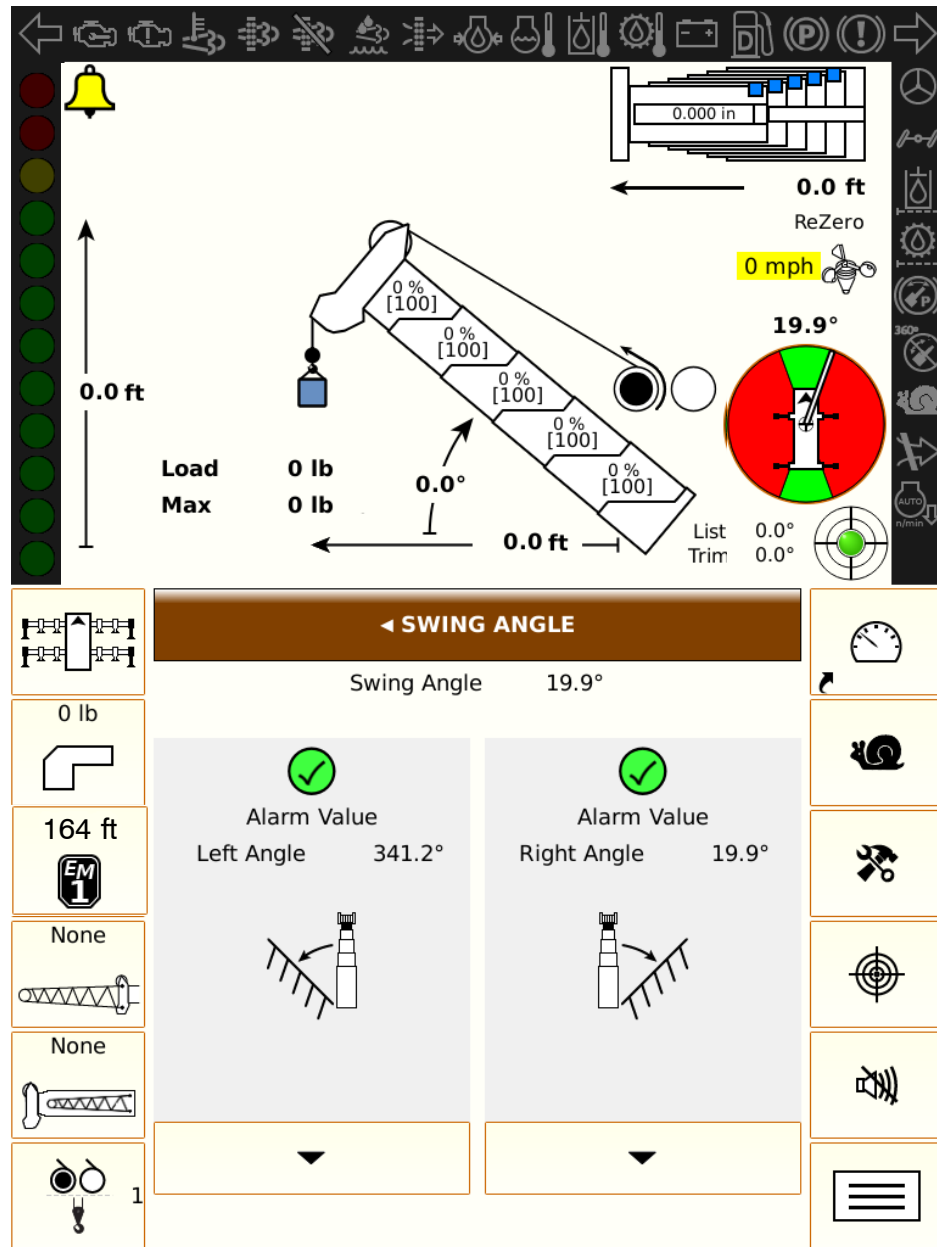

Figure 1–123
9. Test the alarm, with no load, to ensure the alarm points have been properly set. When approaching one of the set alarm points, the audio alarm will sound intermittently, the swing speed will automatically be reduced and "Approaching Swing Angle Limit" will appear in the Message Area. If the swing reaches the alarm points, the audible alarm will sound continuously, the function limiters will activate, and "Swing Angle Limit" will appear in Message Area. Refer to Figure 1–76.